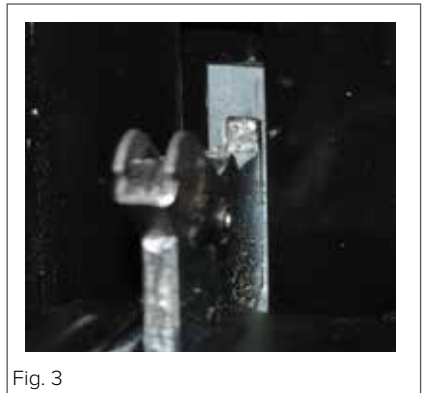

Fig. 3
- Next, ensure the notch on the underside of the hinge sits on the lip of the hinge slot. Open the door fully. Each hinge should be seated in the same way as the hinge in fig. 3. If it is not, follow the steps for removing the door and try replacing it again